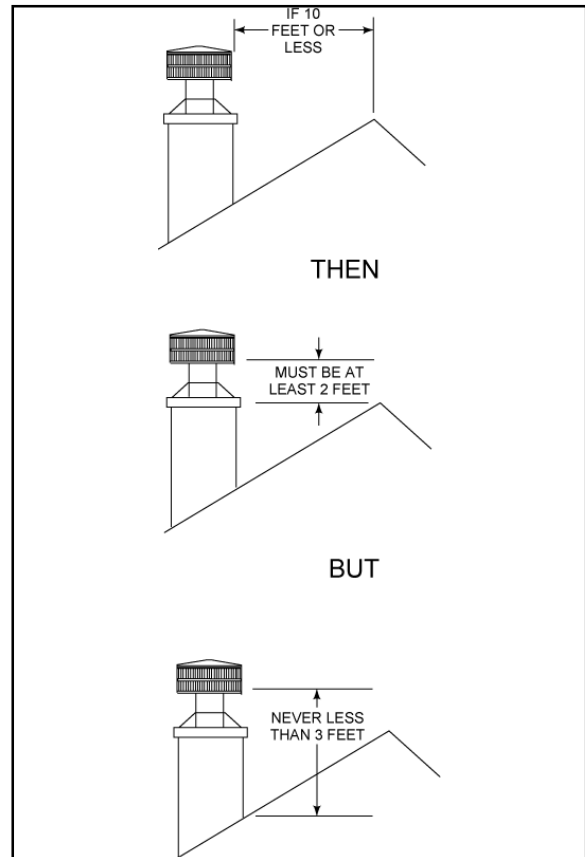

Figure 8 - Chimney Height
- “If the horizontal distance from the side of the chimney to the peak of the roof is more than ten feet, a chimney height reference point is established on the surface of the roof a distance of ten feet from the side of the chimney in a horizontal plane. The top of the chimney must be at least two feet above this reference point, but never less than three feet in height above the highest point where it passes through the roof.” See Figure 8.